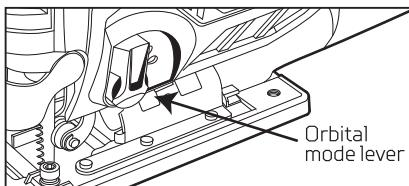

Figure 2
1. The Jigsaw comes with four cutting modes (three cutting settings and 1 straight cutting mode). To change cutting mode, adjust the Orbital Mode Lever (16). See Figure 2, below.